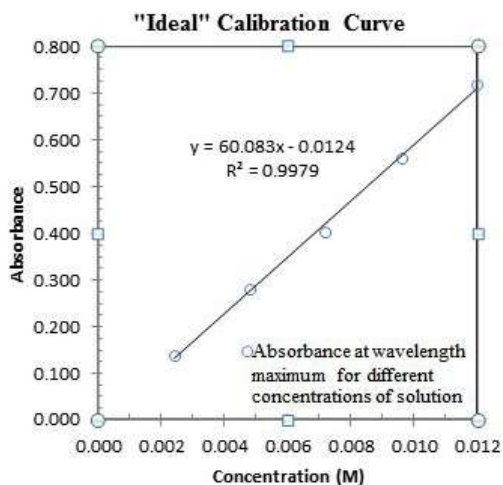

Figure 4.9: Example Beer's Law data and plot. credit: author
10. Make a calibration curve (Figure 4.9) for your sample and for the linear portion of the graph determine the equation of the line and the Molar Absorptivity constant. (Attach the calibration curve to the end of the Results section.)
2. Attach the calibration curve and be sure to include the line fit (Figure 4.9).